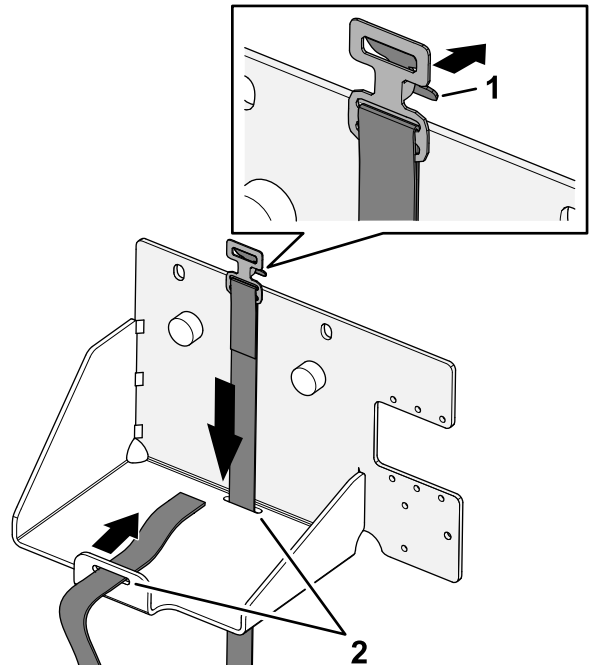

Figure 216
2. Assemble the strap through the 2 slots in the battery bracket as shown in Figure 216.